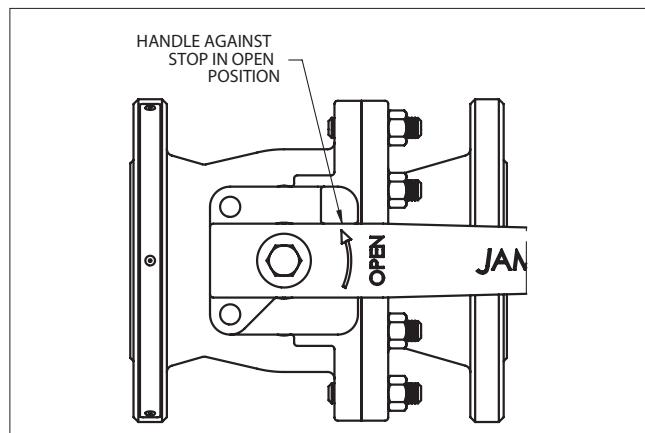

Figure 12. Handle Stop
5. Install the handle screw (6) and washer (5). Tighten handle screw (6) to value listed in **Table 6**.
7. Rotate handle bracket (2) until the handle stop contacts the side of the handle (1) (see **Figure 12**).